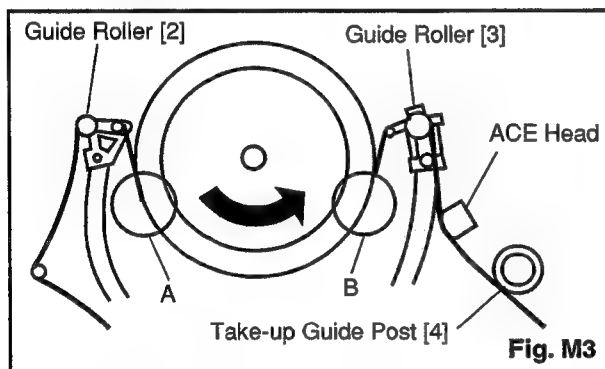

Fig. M3
1. Playback a blank cassette tape and check to see that the tape runs without creasing at Guide Rollers [2] and [3], and at points A and B on the lead surface. (Refer to Fig. M3 and M4.)
2. If creasing is apparent, align the height of the guide rollers by turning the top of Guide Rollers [2] and [3] with a Guide Roller Adj. Screwdriver. (Refer to Fig. M3 and M5.)
3. Check to see that the tape runs without creasing at Take-up Guide Post [4] or without snaking between Guide Roller [3] and ACE Head. (Fig. M3 and M5)
2. Playback the Gray Scale on the Alignment Tape (9965 000 14515). Set the Tracking Control Circuit to the preset position by pressing CH UP button and then "PLAY" button on the unit. Adjust the height of Guide Rollers [2] and [3] (Fig. M3, Page 2-3-3) watching the oscilloscope display so that the envelope becomes as flat as possible. To do this adjustment, turn the top of the Guide Roller with the Guide Roller Adj. Screwdriver.
3. If the envelope is as shown in Fig. M7, adjust the height of Guide Roller [2] (Refer to Fig. M3) so that the waveform looks like the one shown in Fig. M9.
4. If the envelope is as shown in Fig. M8, adjust the height of Guide Roller [3] (Refer to Fig. M3) so that the waveform looks like the one shown in Fig. M9.
5. When Guide Rollers [2] and [3] (Refer to Fig. M3) are aligned properly, there is no envelope drop either at the beginning or end of track as shown in Fig. M9.
Note: Upon completion of the adjustment of Guide Rollers [2] and [3] (Refer to Fig. M3), check the X Value by pushing the CH UP or DOWN buttons alternately, to check the symmetry of the envelope. Check the number of pushes to ensure preset position. The number of pushes CH UP button to achieve 1/2 level of envelope should match the number of pushes CH DOWN button from center. If required, redo the "X Value Alignment."